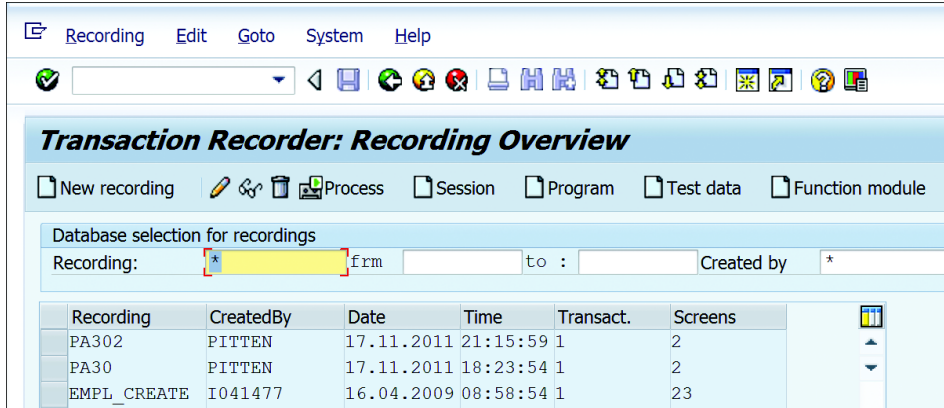

Figure 19.7 Transaction Recorder Initial Screen
1. On the initial screen of Transaction SHDB (TRANSACTION RECORDER: RECORDING OVERVIEW), as shown in Figure 19.7, click the NEW RECORDING button.